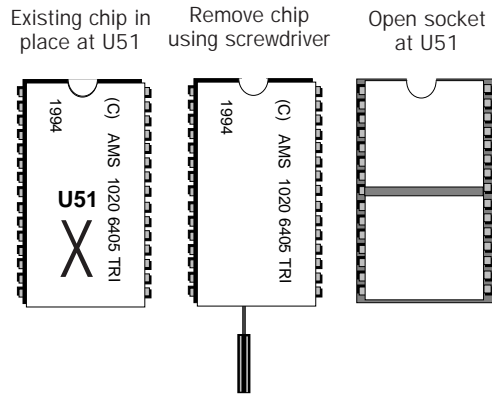
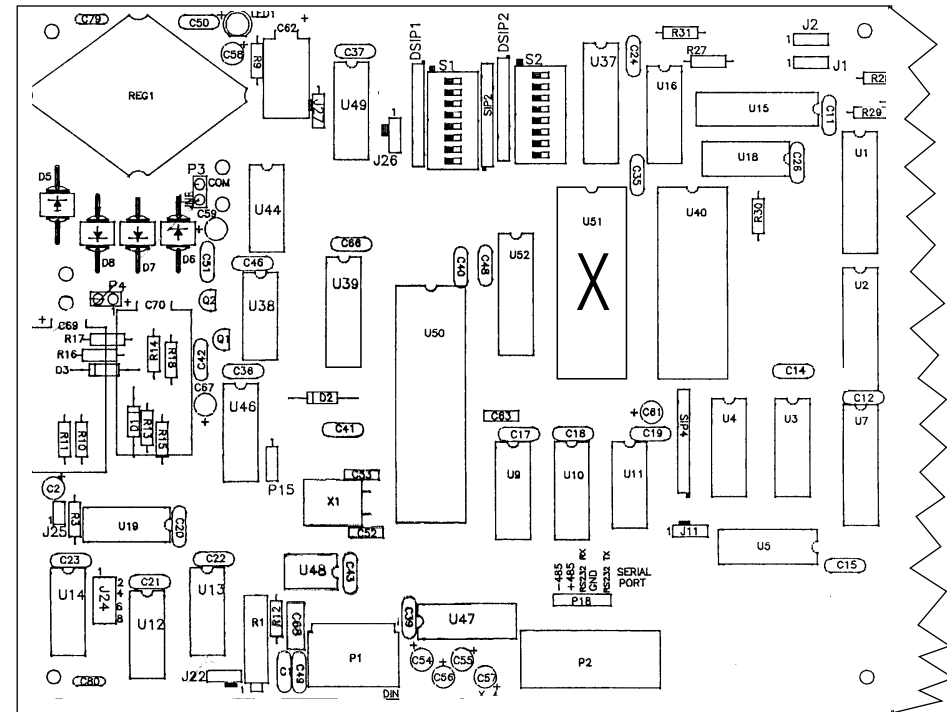

FIGURE 4.
FIGURE 3.
- Place the small screwdriver under the bottom of the chip and slowly move towards the top of the chip until the entire chip is away from the pin sockets. Then lift the chip up and out of the slot. See figure 4 below.
- Facing the back of the sign, carefully slide the back panel along its grooves to the right until the controller board is exposed. The controller board is located in the mid to lower left corner of the sign. (See figure 3, next page.)
- Locate component U51 on the controller board. Slot U51 is marked with an X in figure 3 below and figure 4 on the next page.